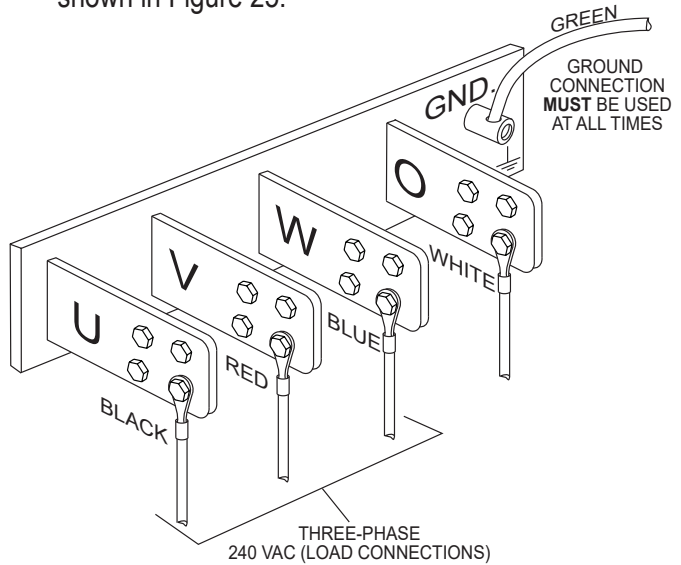

Figure 25. UVWO Terminal Lugs
2. Connect the load wires to the UVWO terminals as shown in Figure 25.